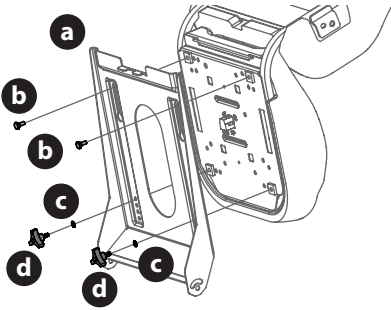

Fig. 5
2. Install the seat onto the seat pan (a) using hardware provided (Fig. 5).
- a. For a Knob Adjust seat insert bolts (b) in the rear holes and lock washer (c) and knobs (d) in the front. Tighten securely (Fig. 5).